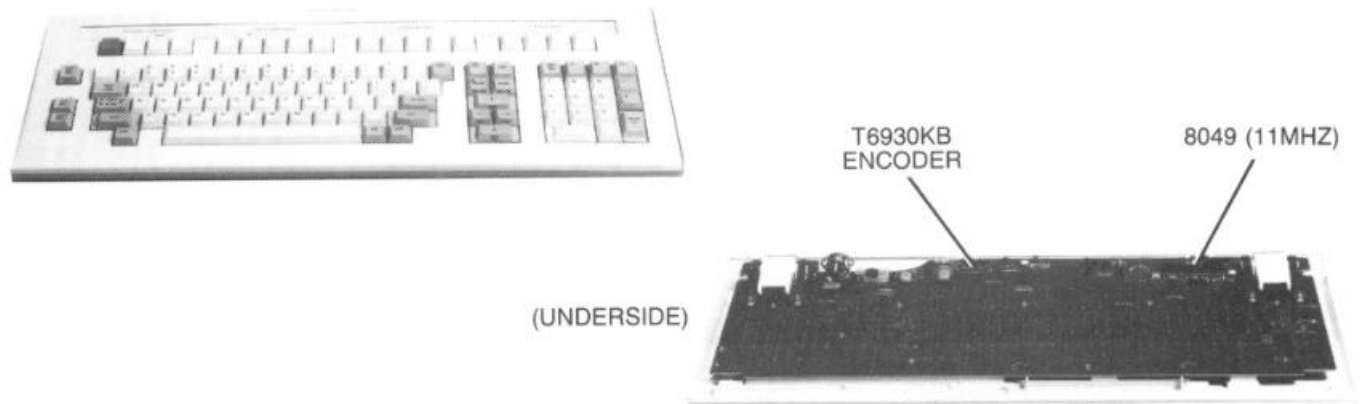

FIGURE 1-8. KEYBOARD COMPONENT LOCATIONS
1.3.3 Keyboard Components (Figure 1-8)
The standard, non-glare green monitor has 640 x 400 line resolution, and uses TTL compatible horizontal and vertical sync signals. Figure 1-8 illustrates monitor component locations. (Refer to Section 2.8 for a description of monitor operation.)